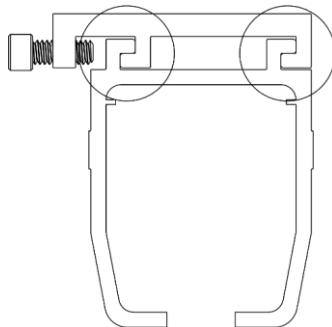

Figure 19: **Track alignment tabs, fully seated in bracket**
- Make sure the alignment tabs are fully seated, as shown in Figure 19.